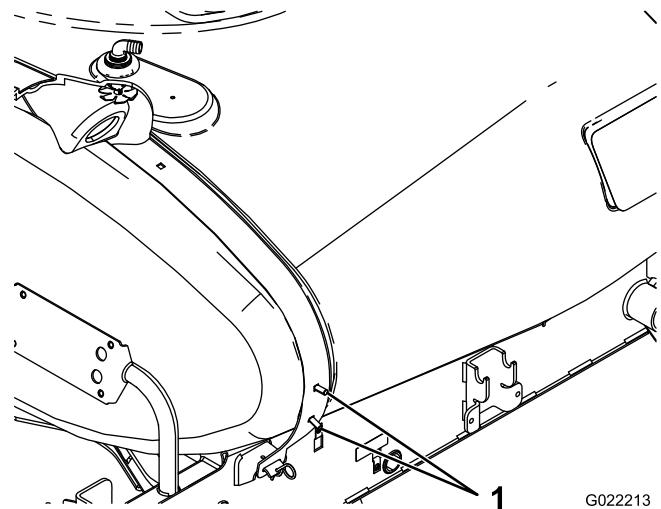

Figure 8
2. Install 2 carriage bolts to the low inboard holes on the right side of the rear tank strap (Figure 8).